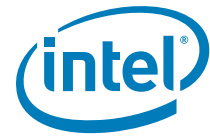

Figure 10. Processor Pinout (Top Package View, Right Side)
Figure 9 and Figure 10 show the processor (SV) pinout as viewed from the top of the package. Table 14 provides the pin list, arranged numerically by pin number.